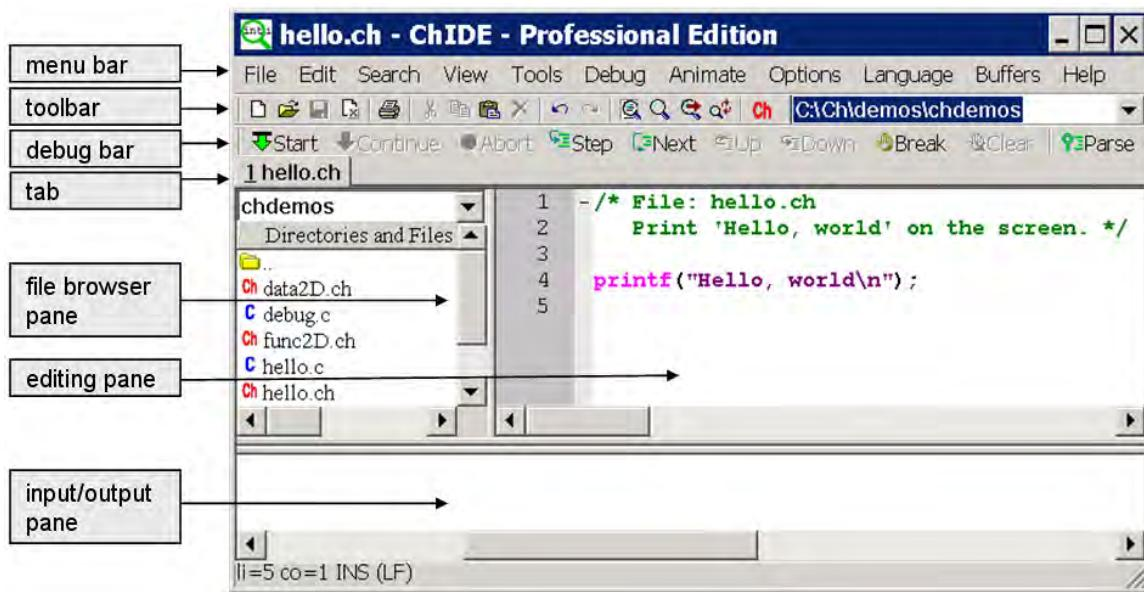

Figure 3.1: A layout and related terminologies in ChIDE.
**int*i*** clicking its icon  on the desktop. A layout of ChIDE is displayed in Figure 3.1, which also shows various terms used to describe ChIDE in this book.
To run the code in Program 3.1, the source code needs to be written first. **Source code** is plain text, which contains instructions of a program. If the text in Program 3.1 is typed in the editing pane in ChIDE, the program will appear colored due to syntax highlighting and with line numbers, as shown in Figure 3.1.
Text editing in ChIDE works similarly to most Windows or Mac text editors, such as Microsoft Word. As an example, open a new document by clicking the command `File->New` on the menu bar, or the first icon on the toolbar that looks like a little piece of paper with a folded corner, as shown in Figure 3.1.
4. Open a new document by clicking the first icon on the toolbar that looks like a little piece of paper with a folded corner, as shown in Figure 3.1.